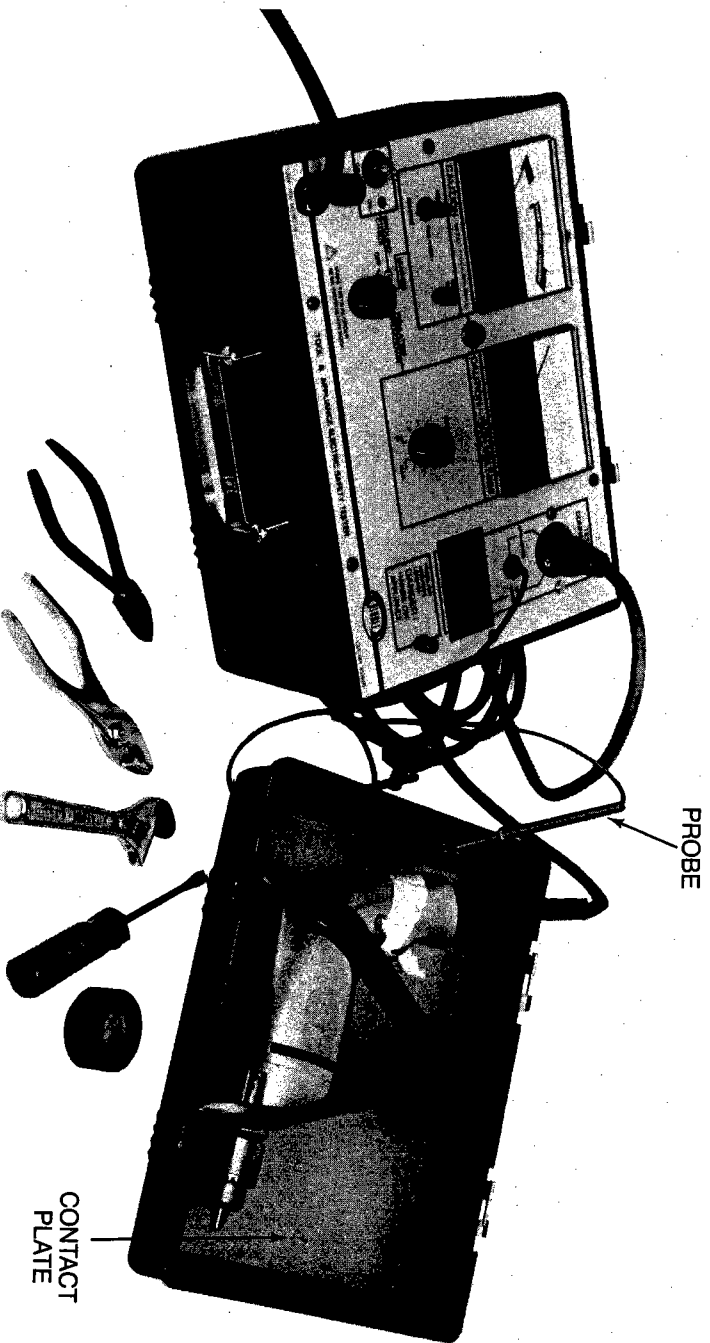

FIGURE 2: APPLIANCE READY FOR TEST
- f. A secure insulated mounting for equipment under test. The insulation must isolate the equipment under test from ground and any adjacent conductors. As a convenience, the Test Set lid can be used but operating equipment may require securing the equipment to the lid. See Figure 2. Alternatively it is suggested that a rubber electrical insulation blanket or a suitable piece of acrylic or phenolic plastic be used.
- d. Secure the AUT to the lid (if used) or to a well insulated stable surface. (AUT must be insulated from ground, or leakage test is not valid). See Figure 2.
- e. Make sure the Test Set switch is set to OFF, set the AUT power switch ON, and plug it into the service outlet of the Test Set. If necessary tie or tape the AUT power switch ON. See Figure 2.